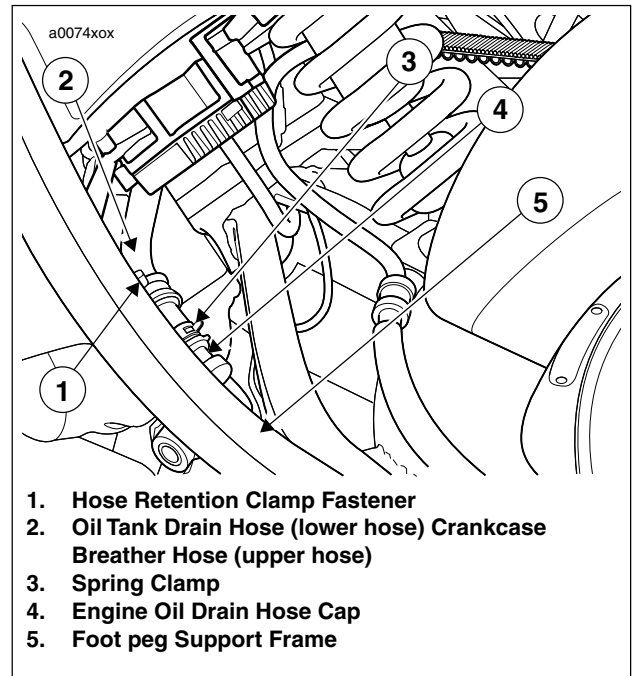

Figure 1-3. Oil Tank Drain Hose
- See Figure 1-3. Locate the engine oil tank drain hose (normally the lower hose) and the crankcase breather drain hose (normally the upper hose) inside the foot peg support frame on the left side of the motorcycle.